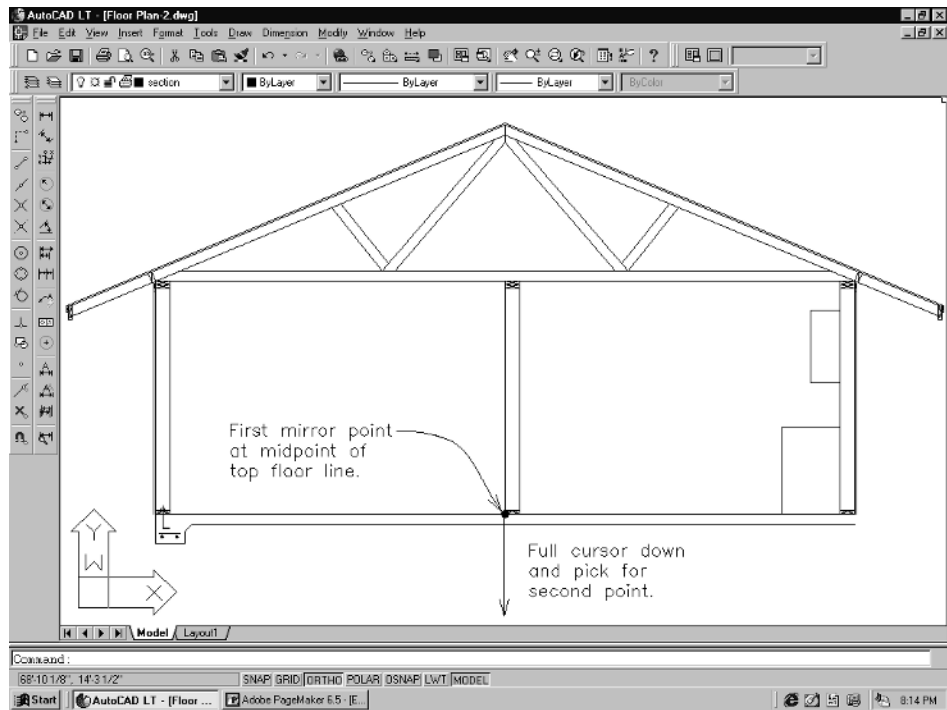

Figure 3-77
11. Next, you will mirror this footing over to the right-hand side of the section. **Zoom|Out** so you can see the entire section. Pick the **Mirror** command. When prompted to *Select objects*, window the footing including the 45 degree line, the rebar, and the anchor bolt. At the *Specify first point of mirror line* prompt, pick the midpoint of the top floor line. When asked to *Specify second point of mirror line*, pull the cursor down and pick. See Figure 3-77.